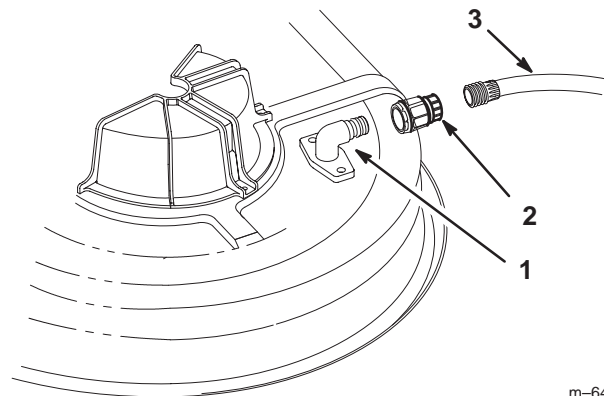

Figure 47
3. Attach the hose coupling to the end of the mower washout fitting, and turn the water on high (Fig. 47).